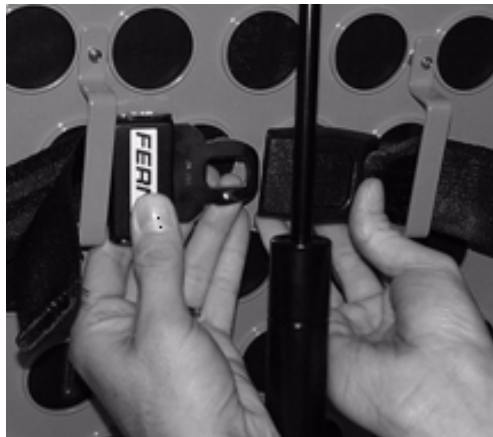

Figure 56: Fastening the Pedi-Mate® Buckle
4. Wrap the straps around the backrest and insert the ends of the straps through the brackets. Securely fasten the buckle (see Figure 56).